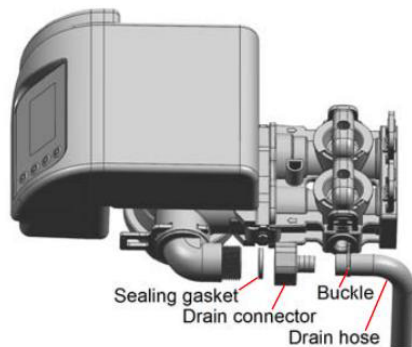

Figure 1-4A
3. Install Drain Pipeline (Refer to Figure1-4A, 1-4B)